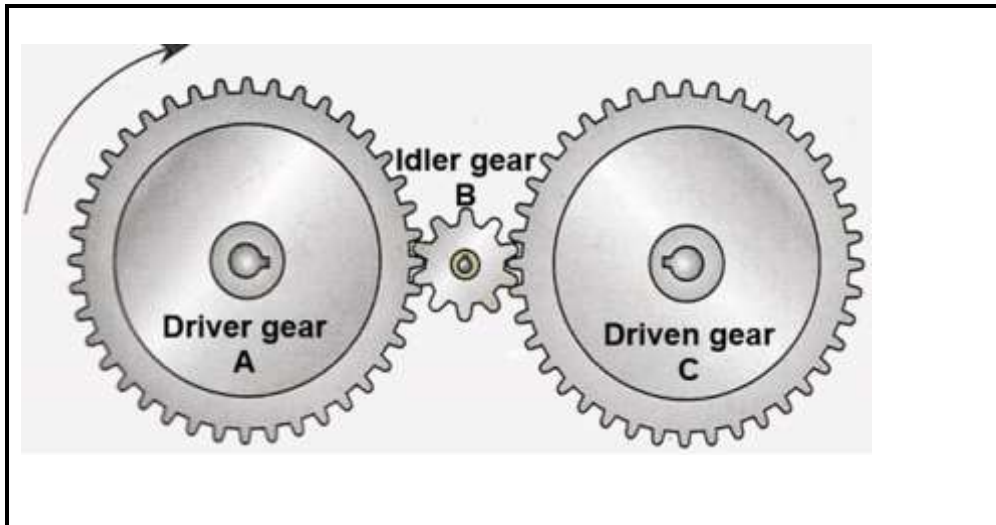

FIGURE 3
FIGURE 3 below indicates a gear system in a gearbox. Gear A with 102 teeth rotates clockwise at 120 r/min.
8.3 What is the function of the idler gear (B) as indicated in Figure 3 above?